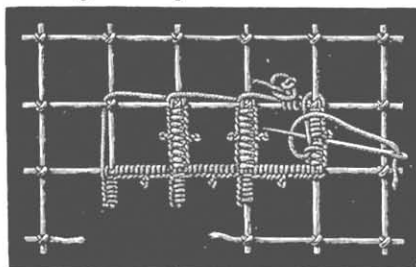

Fig. 41. Cut stitch.
**Cut stitch** (fig. 41) — Here "cut work" means half covering the bars with buttonhole stitches and cutting away the other half with scissors. The inside bars are often ornamented with two-edged buttonholing and knotted picots. You separate very slightly the stitches of the first row of buttonholing so as to insert those of the second row between.